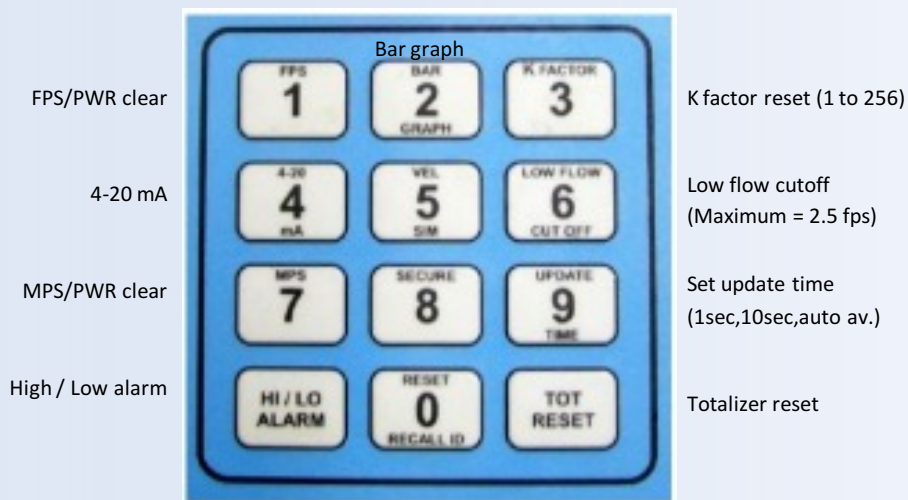

Figure 1. Display unit keypad
- Figure 1 provides a visual representation of the toggle menu.
Keypad	12 keys, tactile feedback Note: Keypad lockout via front panel keyboard; see “To Save Your Programmed Flow Reading Settings:” on page 16 and figure 1